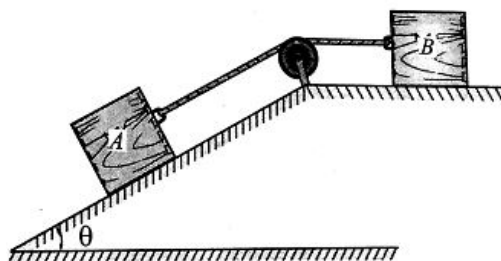

Fig.8
- Find the value of ' Θ ' if the block 'A' and 'B' shown in Fig.8 have impending motion. Given block A = 20 kg, block B = 20 kg, $\mu_A = \mu_B = 0.25$. [L1][12 M]